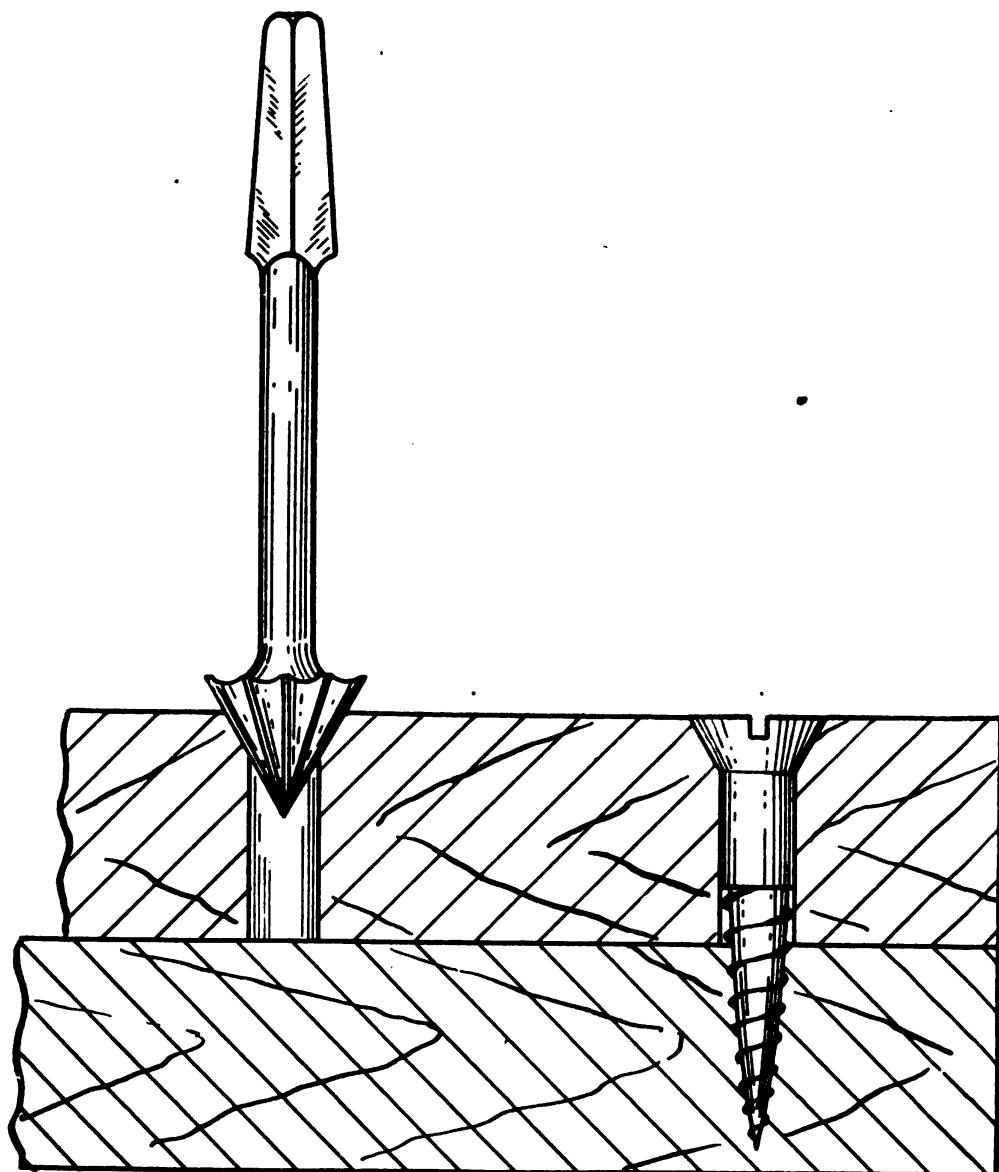

Figure 91. Countersink.
d. COUNTERSINK. A countersink has a head which does the cutting and a shank by which it is held in the brace. (See fig. 91.) It is used to enlarge holes at the top so that flat-head screws will fit flush with the wood. If it becomes full, it can be sharpened by careful filing with a small triangle file. The lips must all be filed equally. If one lip is left higher than the others, the countersink will cut unevenly.